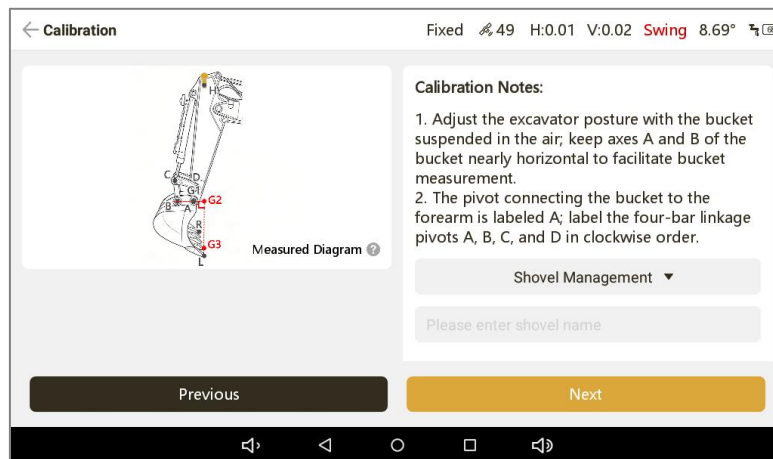
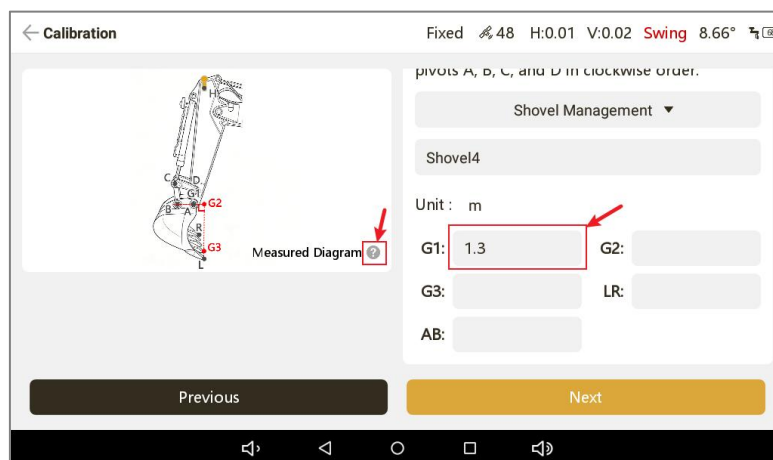

Figure 3-75
Figure 3-76
(7) Measure the bucket parameters.
- ① The bucket parameter interface is shown in Figure 3-75. When a specific parameter input field is selected, the corresponding 'Measured Diagram' will appear in the lower right corner of the schematic diagram. Tap the question mark icon on the right to view the measured diagram for that specific parameter, as shown in Figure 3-76.